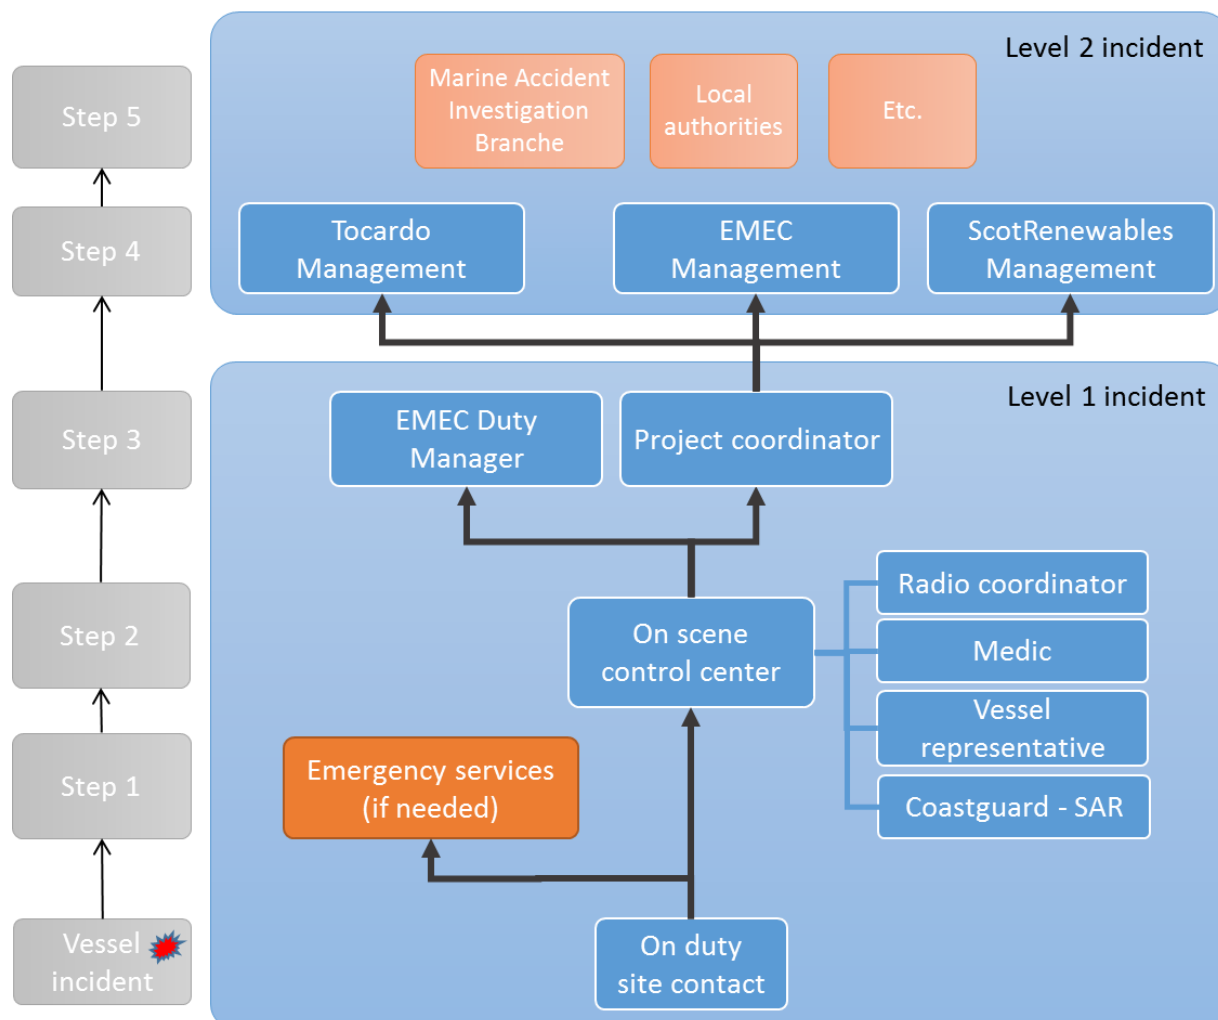

Figure 4: Vessel Emergency response Organization
- Set up control room (see Figure 4: Vessel Emergency response Organization)